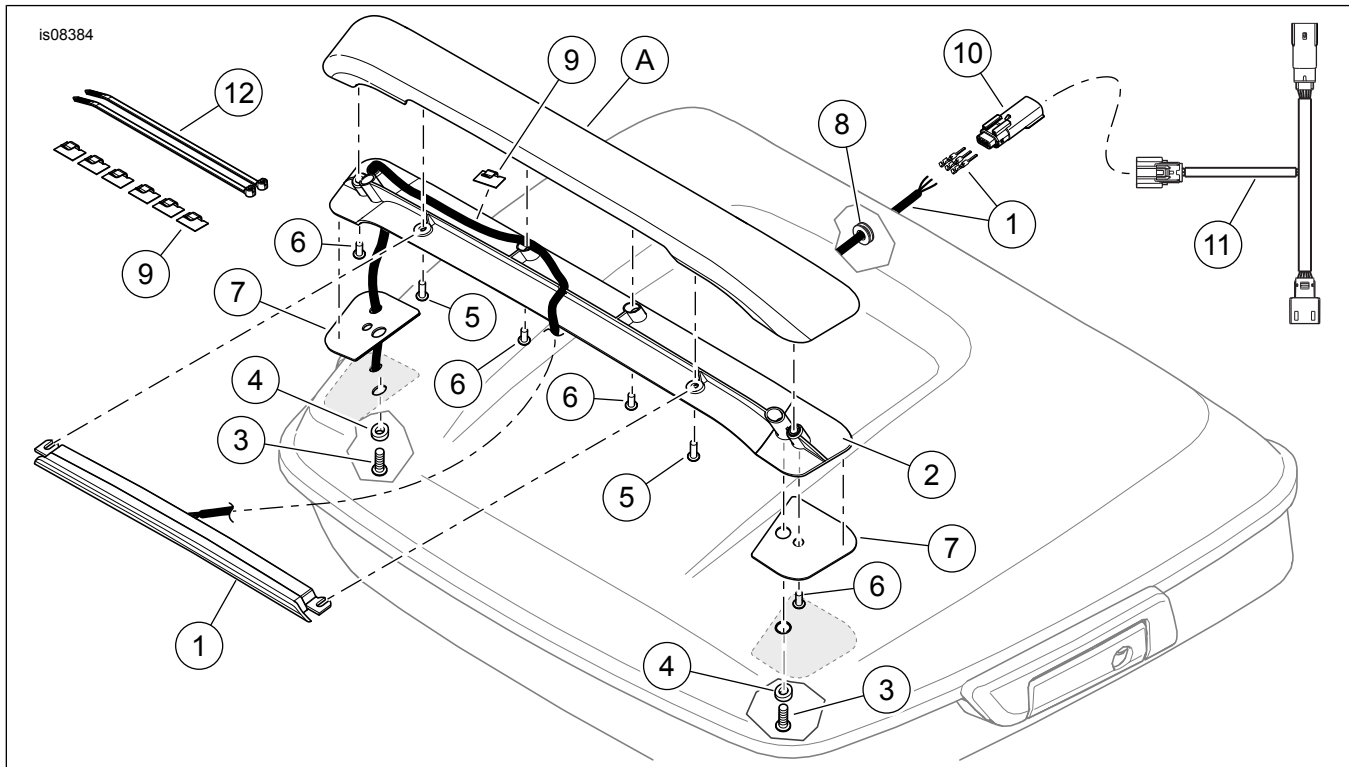

Figure 3. Service Parts, Tour-Pak Spoiler and Auxiliary Rear Light Kit
4. See Figure 3. Temporarily mount the spoiler base (2) to the Tour-Pak cover with the beveled washers (4) and larger screws (3). Allow washers to rotate into alignment on the underside of the lid. **DO NOT** fully tighten screws.
1. See Figure 3. Get the spoiler base, auxiliary light assembly (1) and an adhesive-backed wire clip (9) from the kit. Feed the light wiring through the base wiring hole on the left side.
- a. Assemble the base and light to the cover with two longer socket head cap screws (5) as shown. **DO NOT** fully tighten.
- b. Install the four shorter screws (6) in the remaining holes, but **DO NOT** fully tighten.
4. Get the gasket pair sheet (7) from the kit. Cut along the dashed line to separate the pair. **DO NOT** remove the protective tape from the adhesive backing now.
3. See Figure 3. Install a grommet (8) from the kit into the newly drilled wiring hole.
6. See Figure 3. Get the three-way Molex pin housing (10). See the service manual appendix. Insert the spoiler wires into the pin housing:
7. Get the spoiler auxiliary lighting wire harness (11). **Models WITH OE Tour-Pak: Models WITHOUT OE Tour-Pak:**
- c. Insert the extension harness (Part No. 69201157, purchased separately) into the spoiler auxiliary lighting wire harness (11).